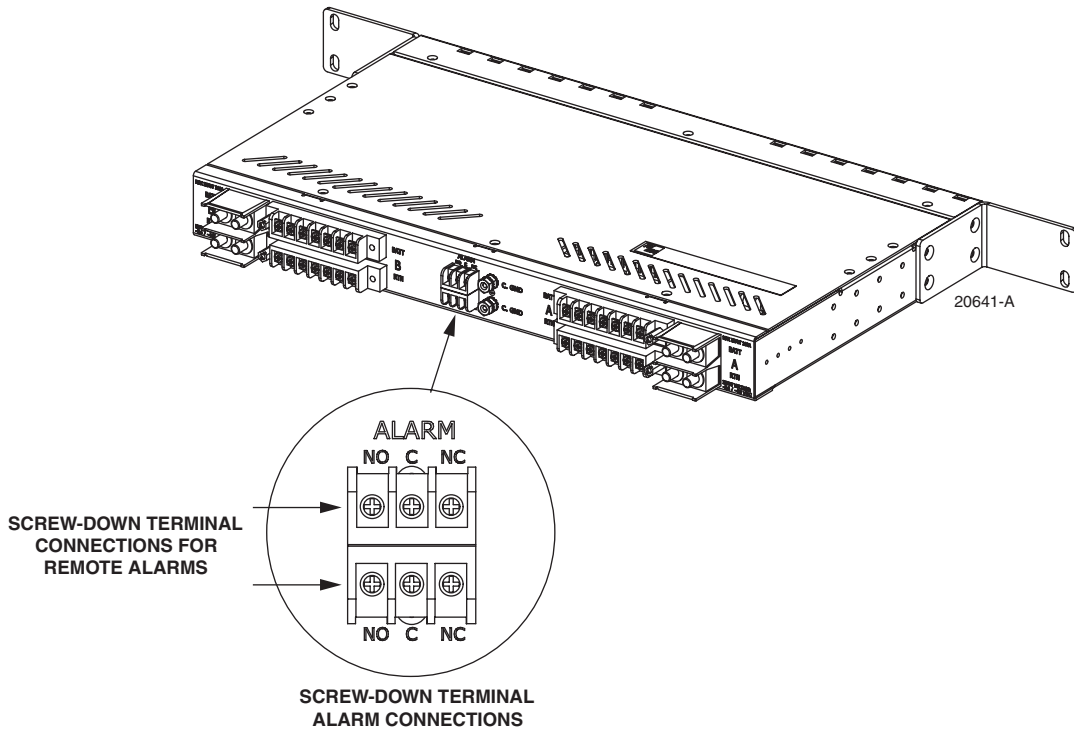

Figure 15. Alarm Terminals
4. If using spade lug or ring connectors, crimp the connectors onto the wires and then install the connectors on the alarm contacts (Figure 15).